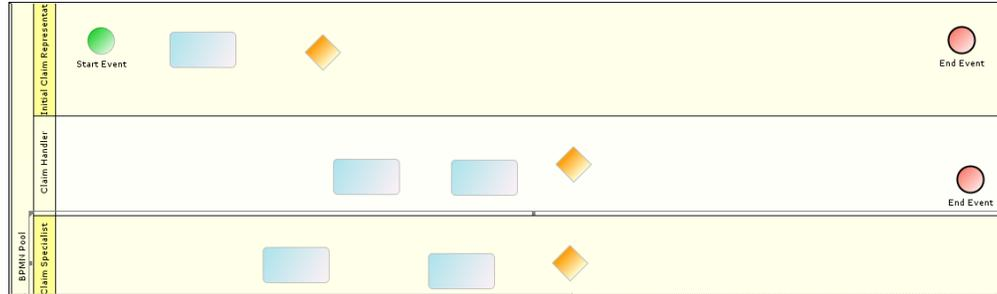

Figure 9: Dragging BPMN Gateway into Swim Lane
- You also need gateway elements in this scenario. Click **Gateway** element () in the Palette and drag in the required swim lanes (see Figure 9).